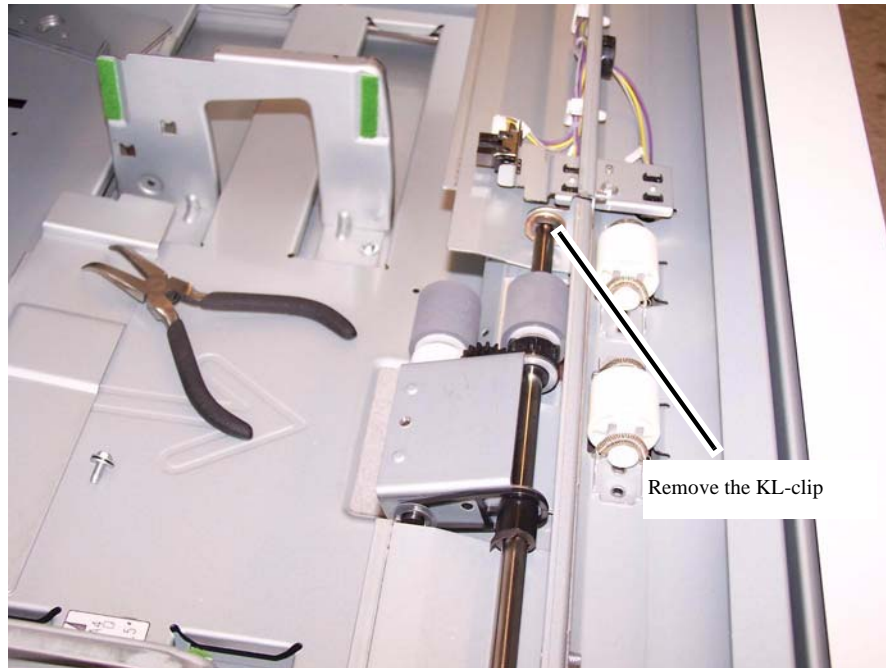

Figure 3 Removing the KL-clip from the RH end of the Feed Roll Shaft
- a. Remove the KL-clip (Figure 3) from the Feed Roll Shaft.